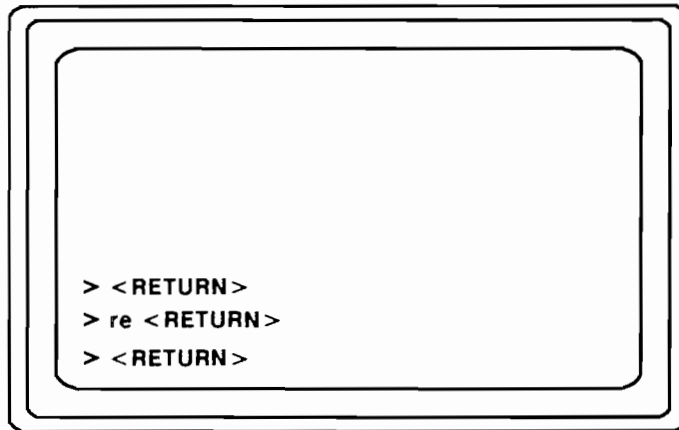

Figure 6-7. Responding to the MD Prompt
9. When you see the MD ">" prompt, type the lines shown in Figure 6-7.